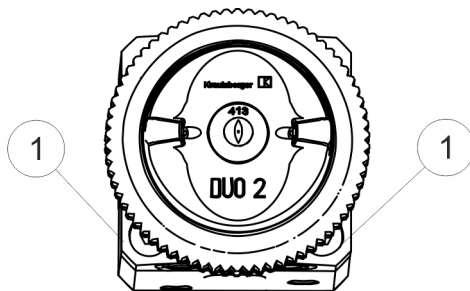

Fig. 30: Loosening the head section
6. ➔ At the front side of the head section, loosen the two cylinder screws ( Fig. 30/1) with a spanner (SW 3) and remove them.